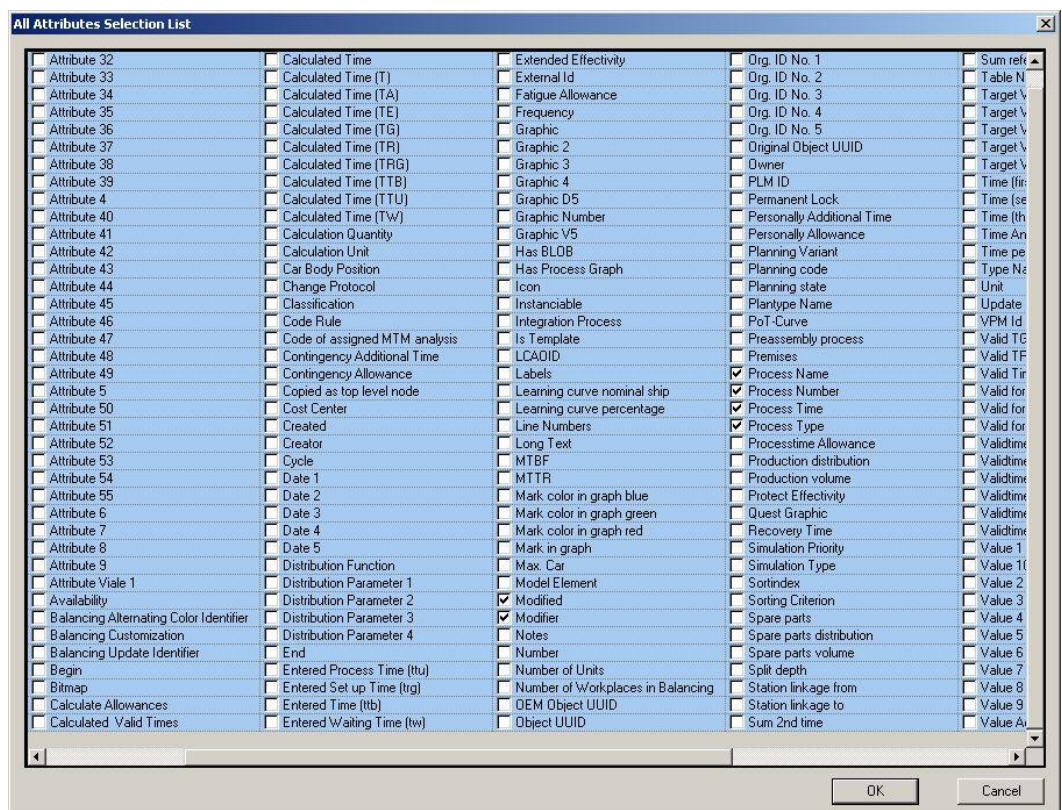

Figure 163: Window with all Attributes of the Plantype
- 7) If you select **Show all attributes selection list...**, all existing attributes of the plantypes are displayed in a window. If you select an attribute, it is shown for the profile. Please refer to the Figure 163.